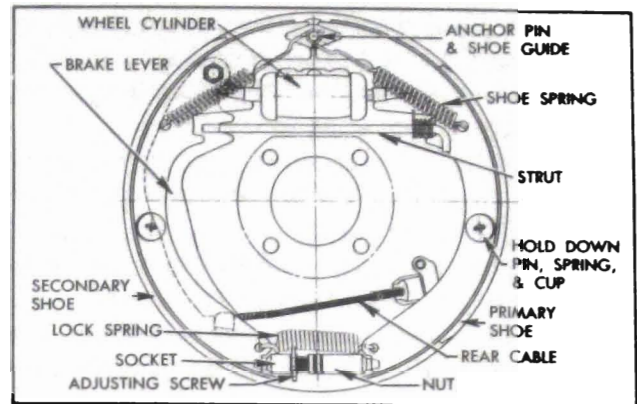

Figure 9-10—Rear Wheel Brake Assembly—Right
2. Unhook shoe return springs from anchor pin, using Brake Spring Remover KMO 526A or large pliers. Remove shoe hold down springs, spread shoes to clear wheel cylinder connecting links, remove parking brake strut (rear only), and remove shoes from backing plate. Disconnect cable from parking brake lever (rear only). See figure 9-10.
3. Separate the brake shoes by removing adjusting screw and lock spring. Remove parking brake lever from secondary brake shoe (rear lever (rear only)). See figure 9-10.
2. On rear brakes only, lubricate fulcrum end of parking brake lever and the bolt with Bendix or Delco Brake Lubricant, or Lubriplate, then attach lever to secondary shoe with bolt, spring washer, nut, and Pal nut. Make sure that lever is free moving. See figure 9-10.
4. Attach brake shoes to backing plate with hold down springs, pins, and cups, at the same time engaging shoes with wheel cylinder connecting links. The primary shoe (short lining) goes forward. On rear brakes, connect cable to parking brake lever and install strut between lever and primary shoe as installation is made. See figure 9-10.